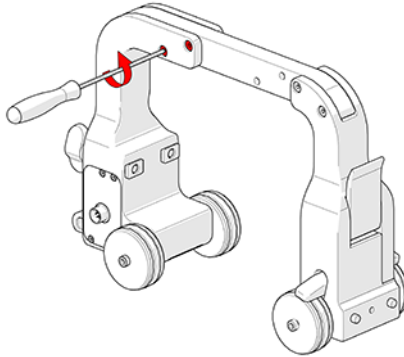

Figure 3-5 Tighten shoulder screws
3. Tighten the two shoulder screws with the supplied 2 mm hex driver (see Figure 3-5 on page 47).